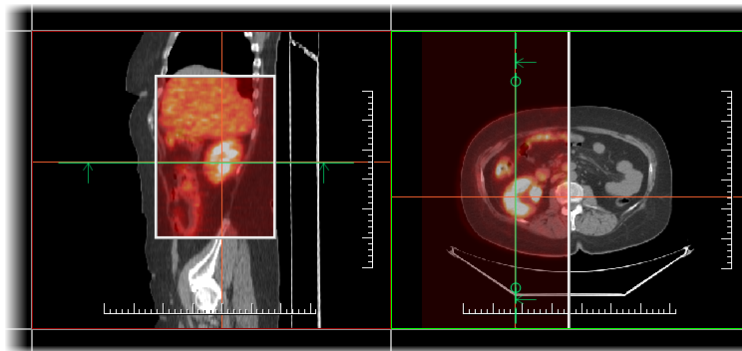

Figure 308 – Fusion images between CT and PET series
- Vertical** - the view is divided with a vertical line; the image from the fusion series is displayed on the right (see Figure 308, right).
- Rectangle** - the image from the overlaying series is displayed inside the rectangle (see Figure 308, left).